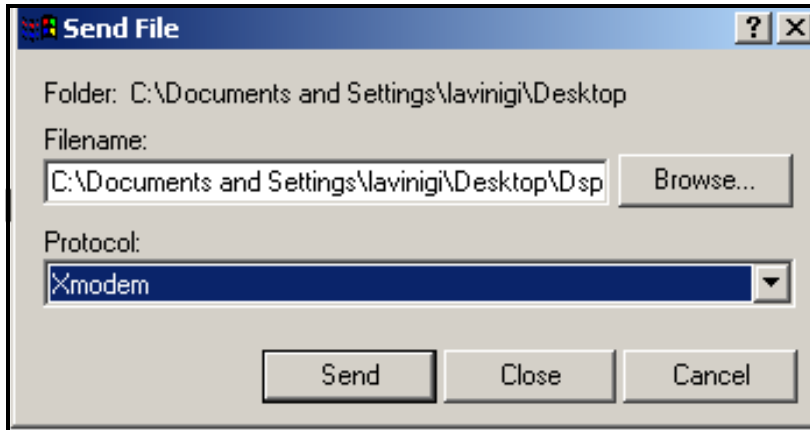

Figure 20: "Send File" Window
5. The "Send File" window appears (see Figure 20 below). Select the replacement software (designated by a .cod extension) from the folder where it has been stored.